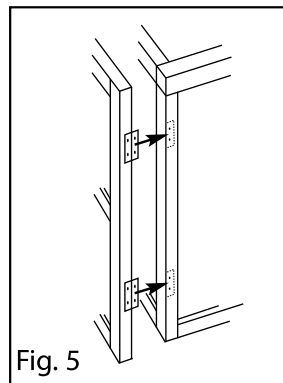

Fig. 5
- a. Pass the washers over bolts (**F**) and insert the bolts, from the outside, through the slots in the support arms and into the pre-drilled holes in the sides (**C**). Screw in part way to secure them (see Fig 5).
8. Attach the doors (**D**) in the same way as the lid in point 6 above, lining up the doors with the frame and attaching with screws (**I**) (see Fig 5).